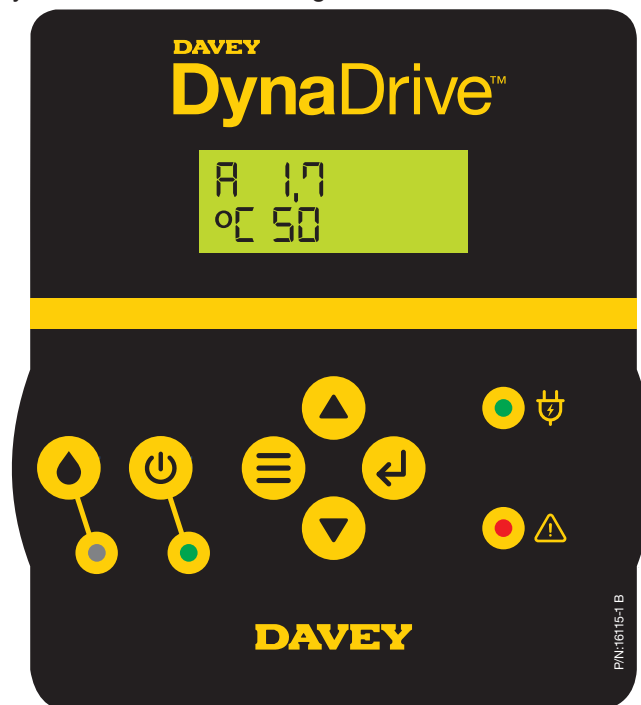

Figure 6.8
- Pressing the  **Menu up button** again will display the motor current draw per phase, and the temperature of the DynaDrive controller, see figure 6.8;